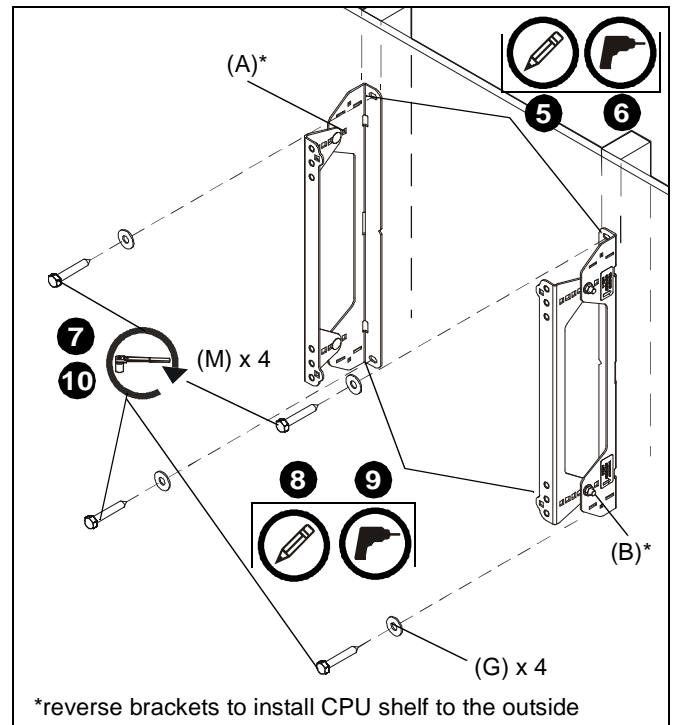

Figure 2
5. Using a level, mark the wall on each stud to attach the brackets through the upper mounting slots. (See Figure 2)
7. Use two 5/16 x 2-1/2" lag bolts (M) and two 5/16" flat washers (G) to attach top of brackets (A and B) to wall. (See Figure 2)
NOTE: If desired CPU location is off to the side of the display, reverse brackets (A and B) from how they are shown in Figure 2.
8. Mark the attachment points for the lower mounting slots, making sure the attachment points are located on the studs. (See Figure 2)
9. Drill 7/32" (5.5mm) pilot holes at markings for lower mounting holes. (See Figure 2)
10. Use two 5/16 x 2-1/2" lag bolts (M) and two 5/16" flat washers (G) to attach the accessory to the wall through the lower mounting holes. (See Figure 2)